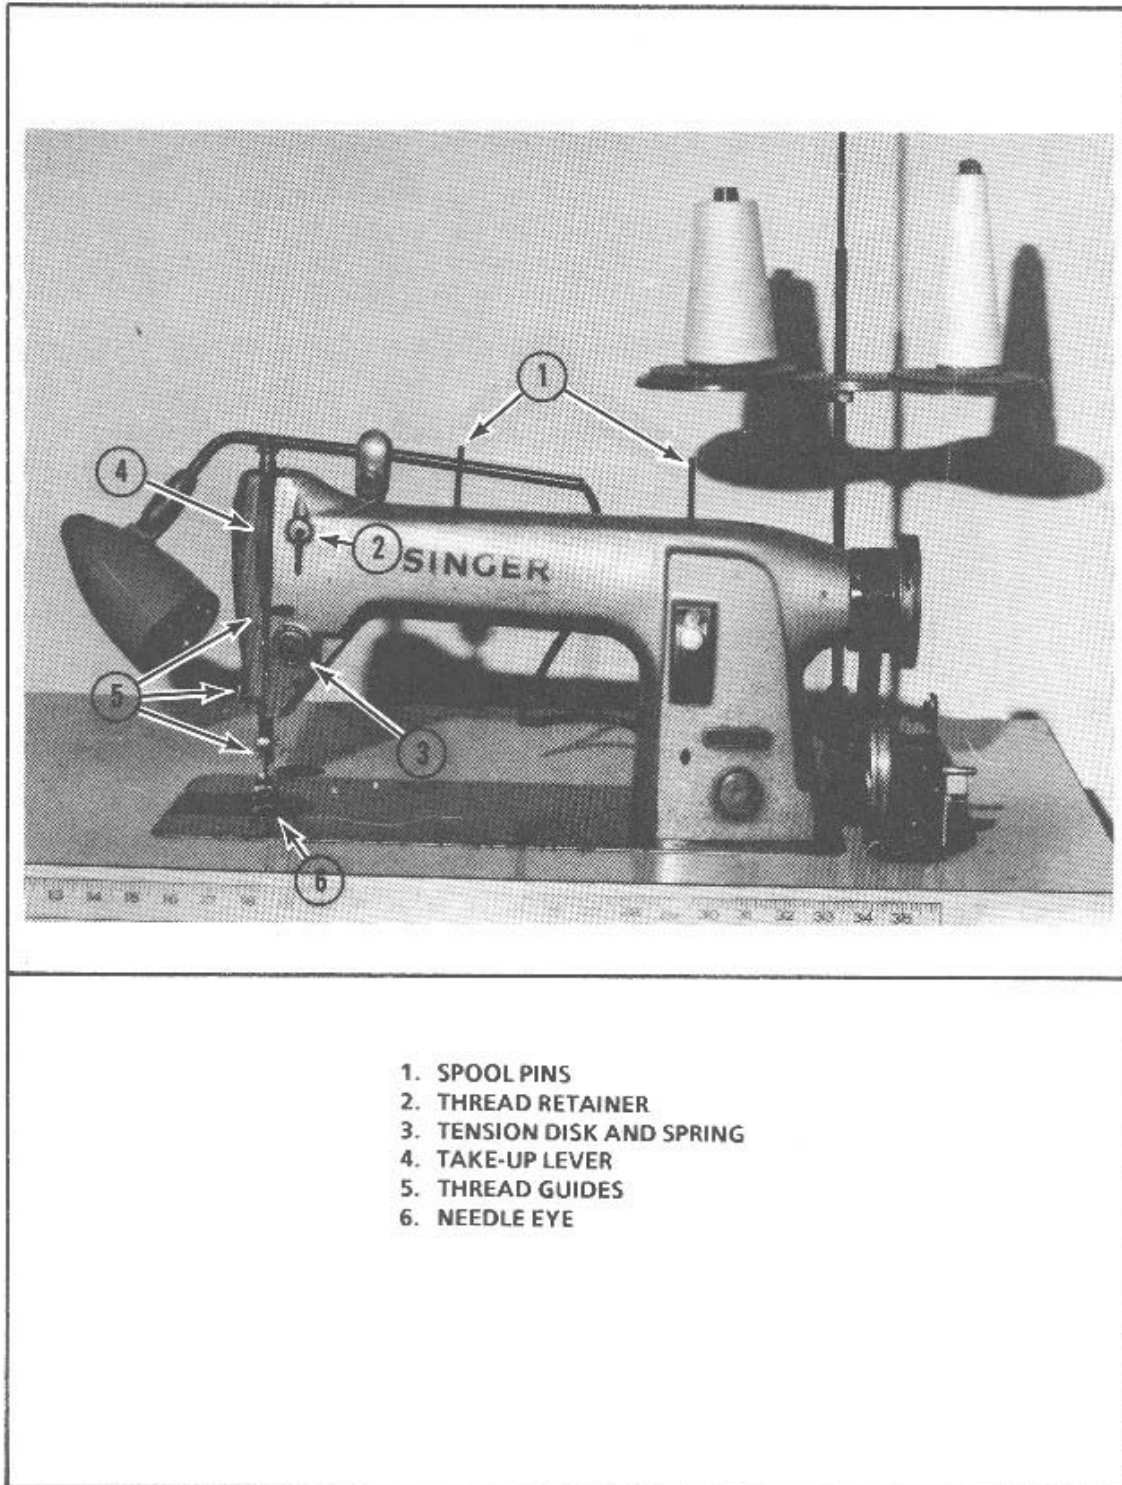

Figure 3-84
- (2) Thread the spool pin.
- (3) Thread the thread retainer by passing the thread through the top hole from right to left, the middle hole from left to right, and the bottom hole from right to left.
- (4) Thread the tension disks.
- (5) Thread the thread take-up lever, by passing the thread through the hole in the thread take-up lever from right to left.
- (6) Thread the thread top guide on the faceplate.
- (7) Thread the thread guide on the bottom of the faceplate. (See Figure 3-84)